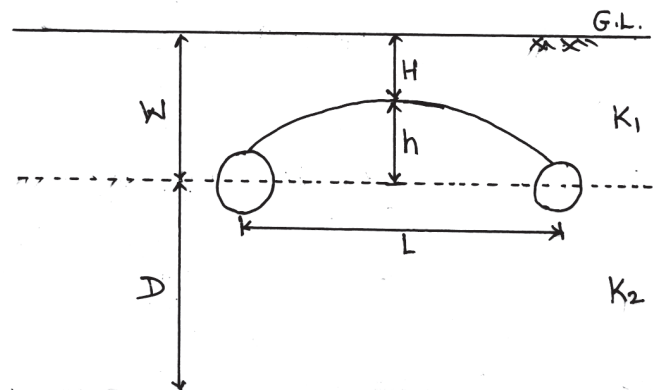

Fig. 8 (c)
- c) Determine the required drain spacing (L) for the basic design criteria $q = 8$ mm/d, $H = 0.85$ m, pipe with outer diameter = 0.3 m and wet entry perimeter (u) = 0.45 m. $K_1 = 3.5$ m/day, $K_2 = 2.0$ m/day. $W = 1.5$ m, $D = 3$ m. Refer Fig. 8 (c). Use Hooghoudt's formula. Take only two trials. [9]